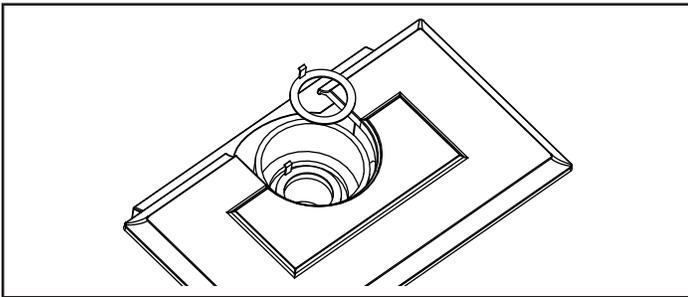

Figure 16 - Install the restrictor plate only if required for the venting configuration. Refer to Page 9.
1. **Install the Restrictor Plate:** Consult the 'Vent Run Specifications' to determine whether the restrictor plate is needed. If so, put the restrictor plate in place within the inner flue collar as shown in Figure 16.
1. **Install the Restrictor Plate:** Consult Page 9 to determine whether the restrictor plate is needed. If so, place the restrictor plate into the inner flue collar. (Figure 16)